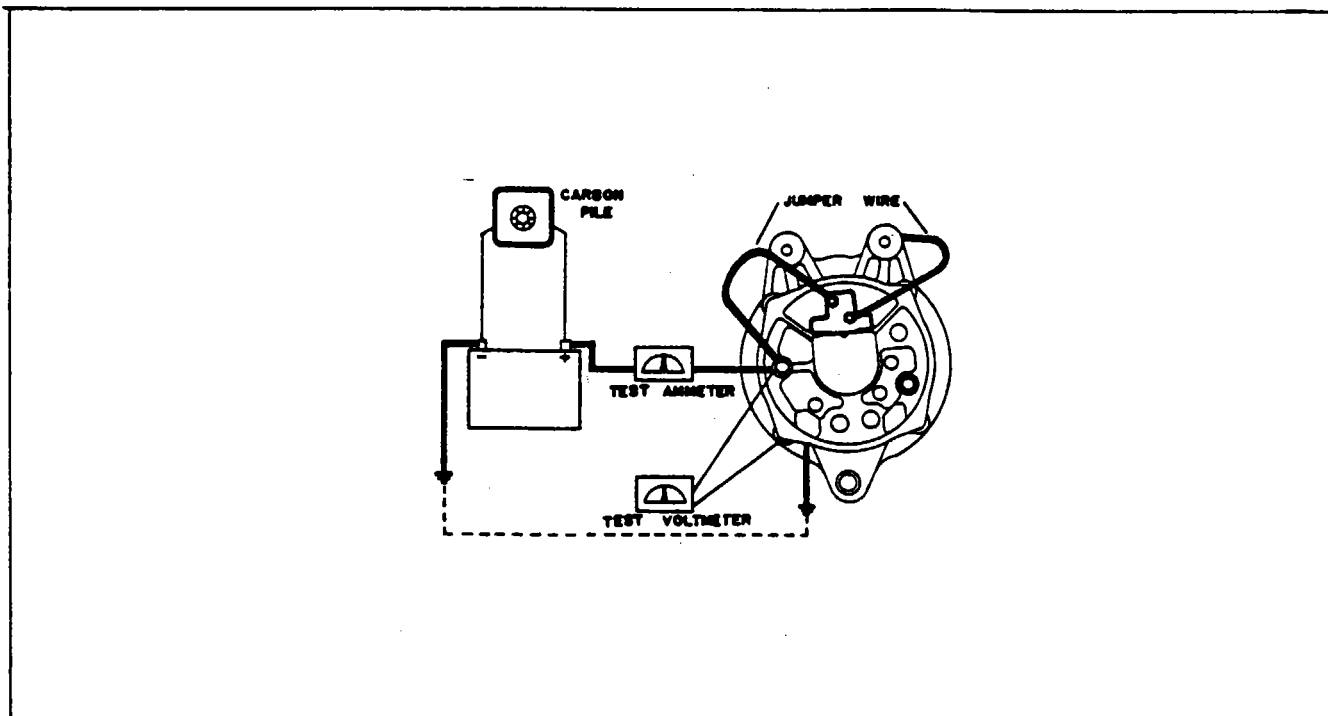

Figure 11-46. Testing Alternator
a. Wiring connections for bench testing the alternator are shown in Figure 11-46. Refer to the individual specification pages for output test figures. Adjust the carbon pile, if necessary, to obtain the specified voltage.